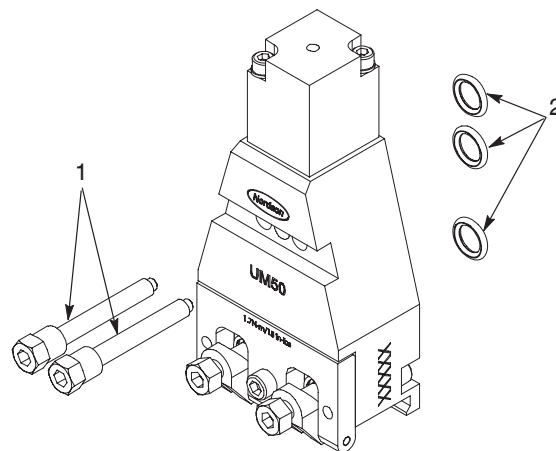

Figure 9-4 Replacing a modul
6. See Figure 9-4. Remove the module mounting screws and then remove the module. Discard the module O-rings.